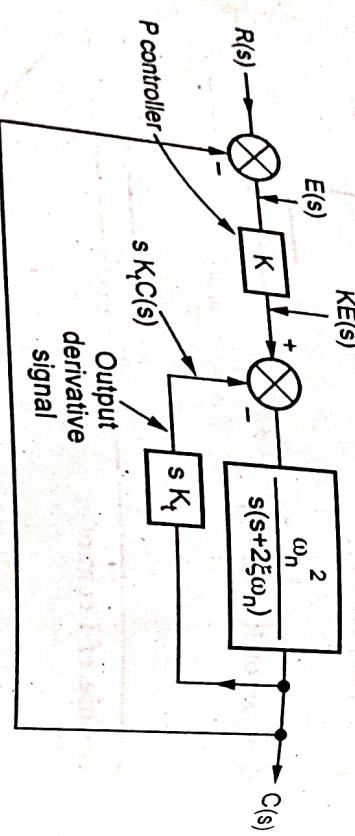

Fig. Q.10.1 Rate feedback controller
• The Fig. Q.10.1 shows the use of rate feedback controller with standard second order system.